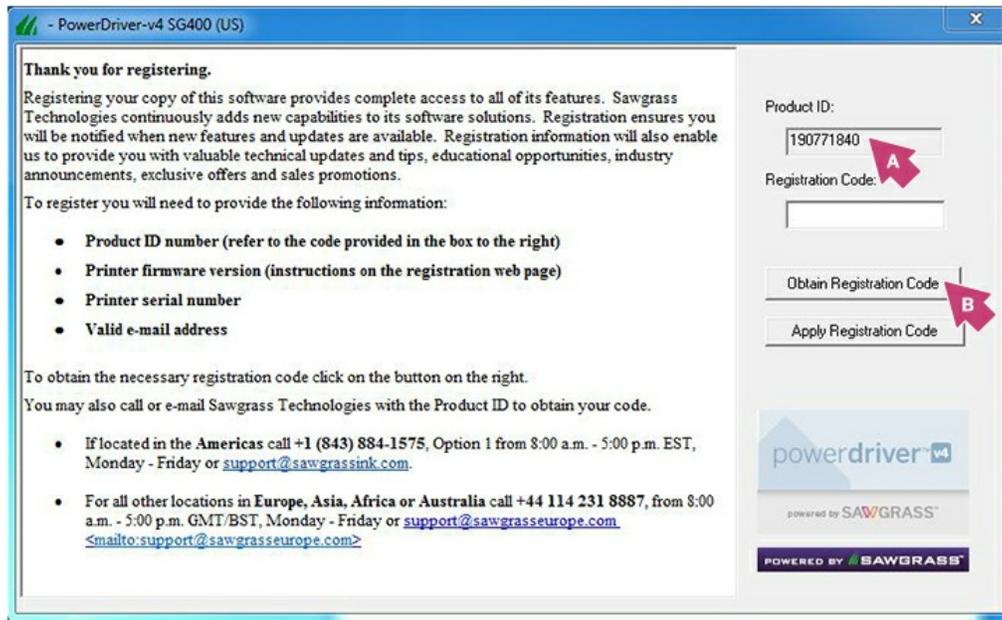

FIGURE 22
22. Take note of the Product ID number, it will be needed to register your software. Click the **Obtain Registration Code** button. See Figure 22.